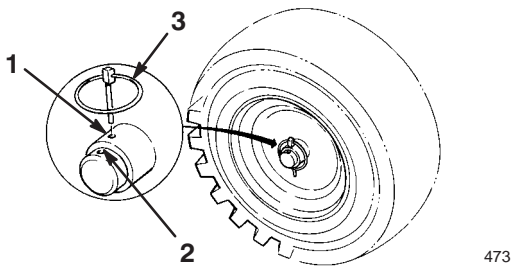

Figure 6
7. Slide the wheels inward and insert each axle pin through the hole in each wheel hub and through the *inner* hole of the axle (Fig. 6).